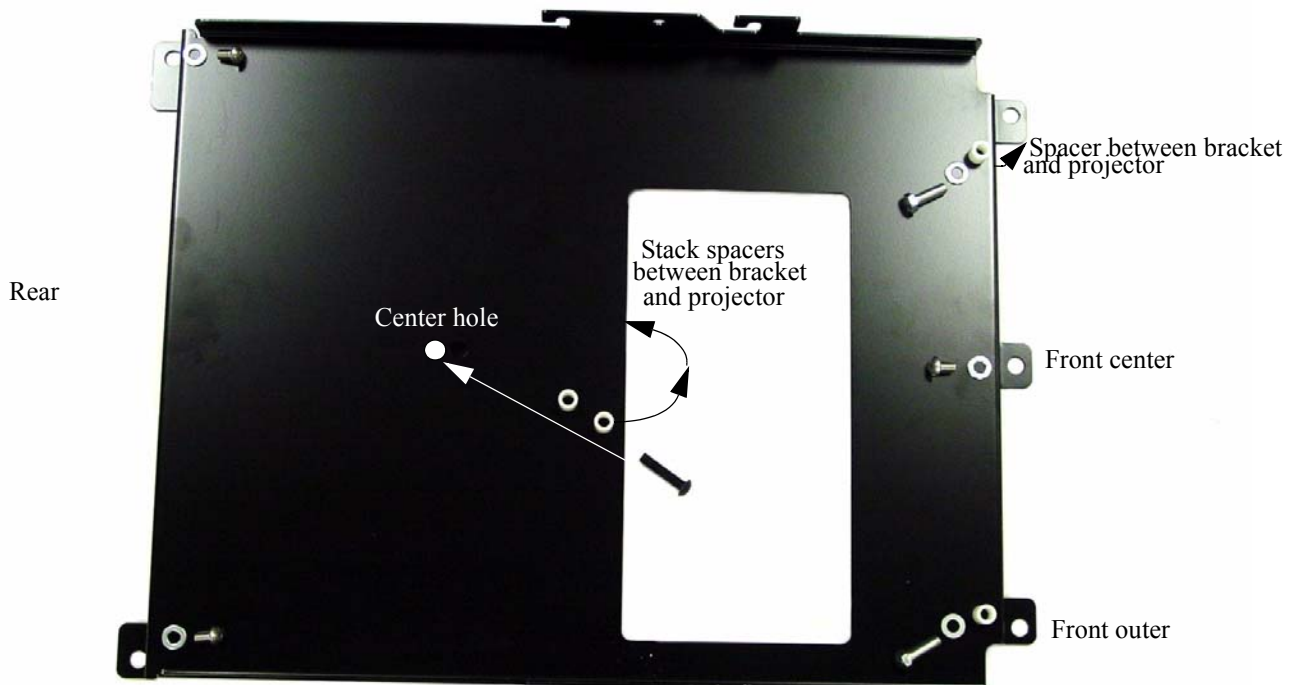

Figure 1. Bracket Installation
3. Insert two 1/2" round Nylon spacers, one on each side of the front of the projector, between the projector and the bracket (see Figure 1).